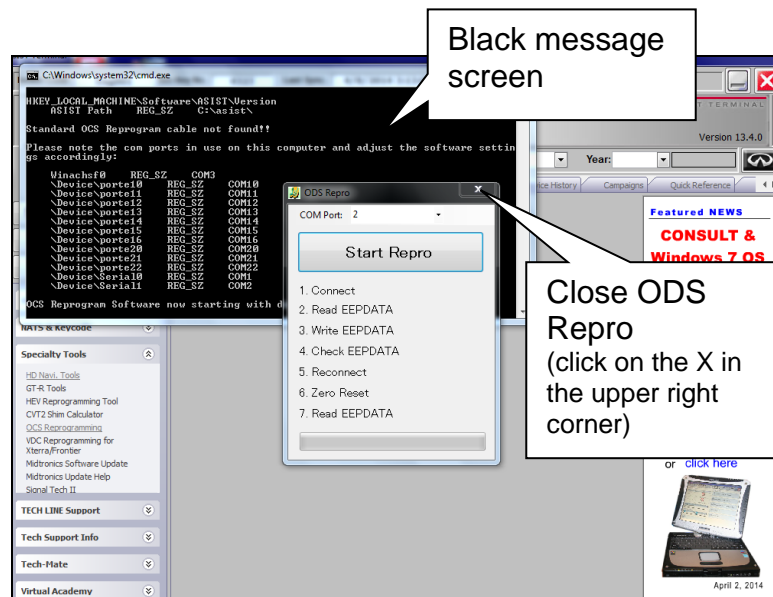

Figure 12
**NOTE:** If you get a black message screen as shown in Figure 12, this indicates that the reprogramming cable is not connected, or the cable driver did not install correctly.